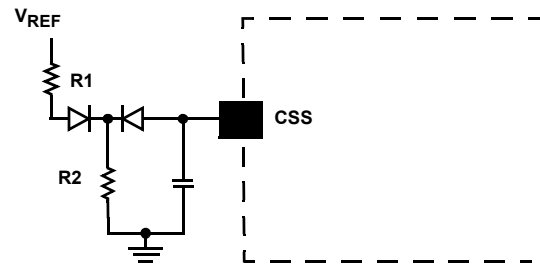

FIGURE 4. REFERENCE-BASED CLAMP CIRCUIT
- Per Equation 3, the clamping voltage is a function of the charge current I_{ss} . For a more predictable clamping voltage, the CSS pin can be connected to a reference based clamp circuit, as shown in Figure 4. To make the V_{clamp} less dependent on the soft-start current (I_{ss}), the currents flowing through $R1$ and $R2$ should be scaled much greater than I_{ss} . The relationship of this circuit can be found in Equation 4.